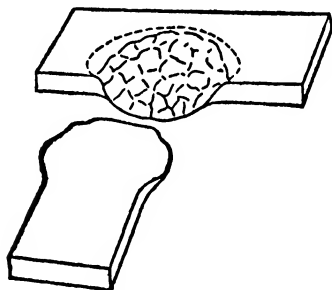

FIG. 46. T-weld in flat stock.
anvil and deliver light blows. Turn the link over quickly and deliver a blow on the other side. Then place it over the tip of the horn and hammer on the corners until the stock is round in cross-section thru the weld. Figs. 46 and 47.
17. In the case of flat stock, place the bar of the T flat on the anvil and with the peen of a ball-peen hammer scarf it by forming a 45 degree taper on one side, as wide as the leg of the T and at the place where the upsetting was done. Fig. 46. Draw with the peen until the point of the scarf extends slightly past the edge of the stock and forms an egg-shaped point.